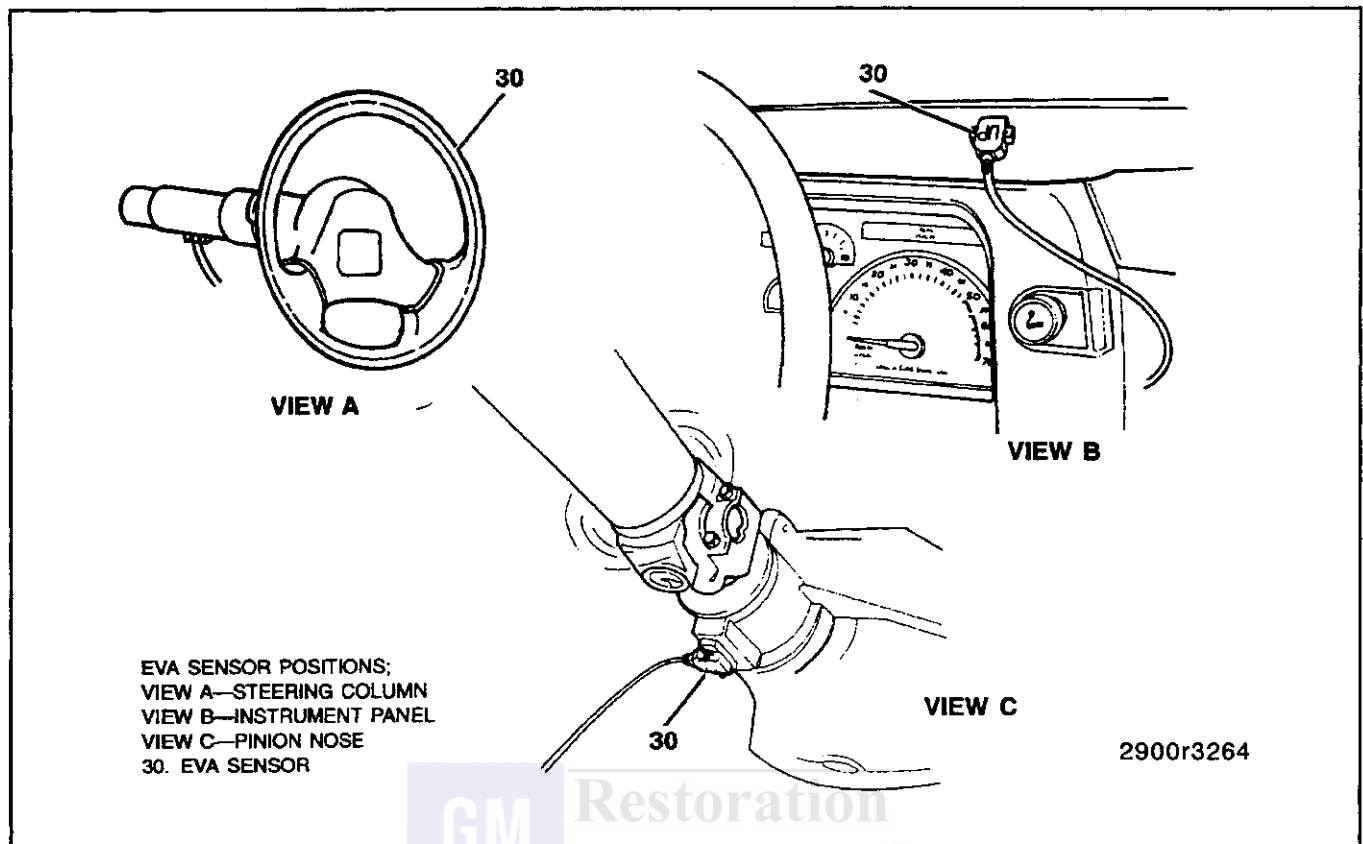

Figure 17—EVA Sensor Positions
3. Place the strobe light wheel balancer pickup or the EVA sensor under the nose of the carrier (figures 17 and 19).